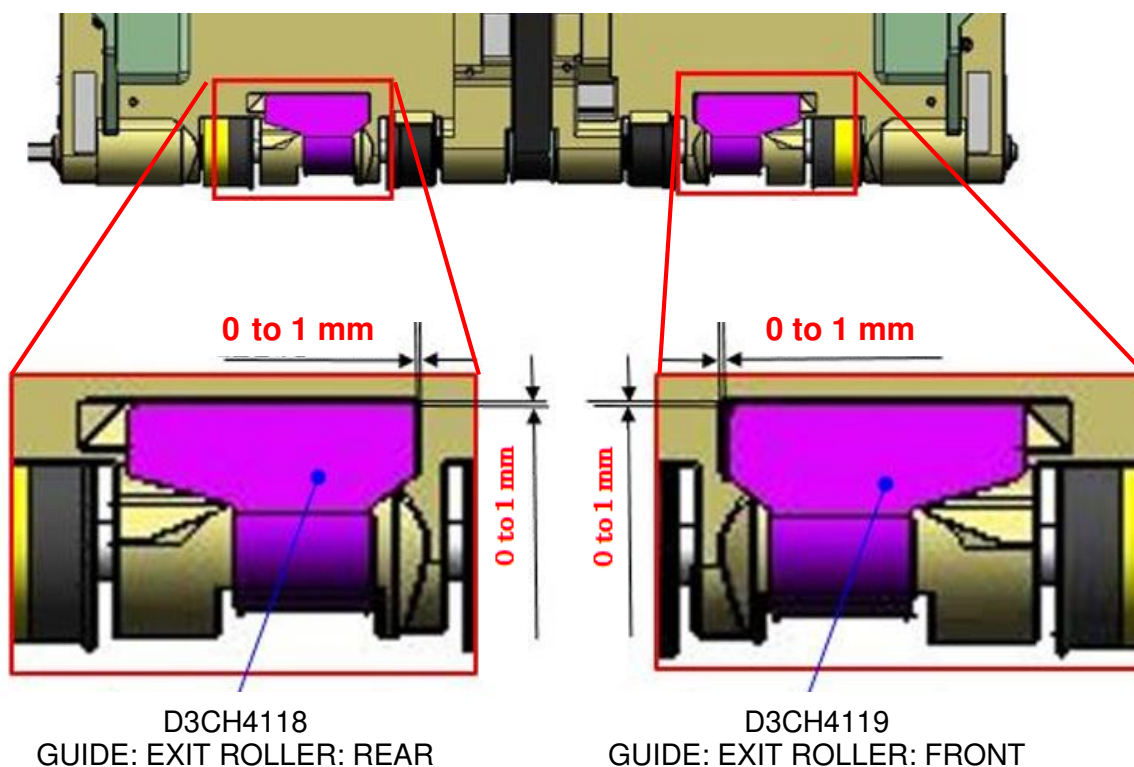

Fig. 1: Attachment position
IMPORTANT: See Fig. 1 and 2 below.
- Attach the new Mylar in the position shown (**Fig. 1**).